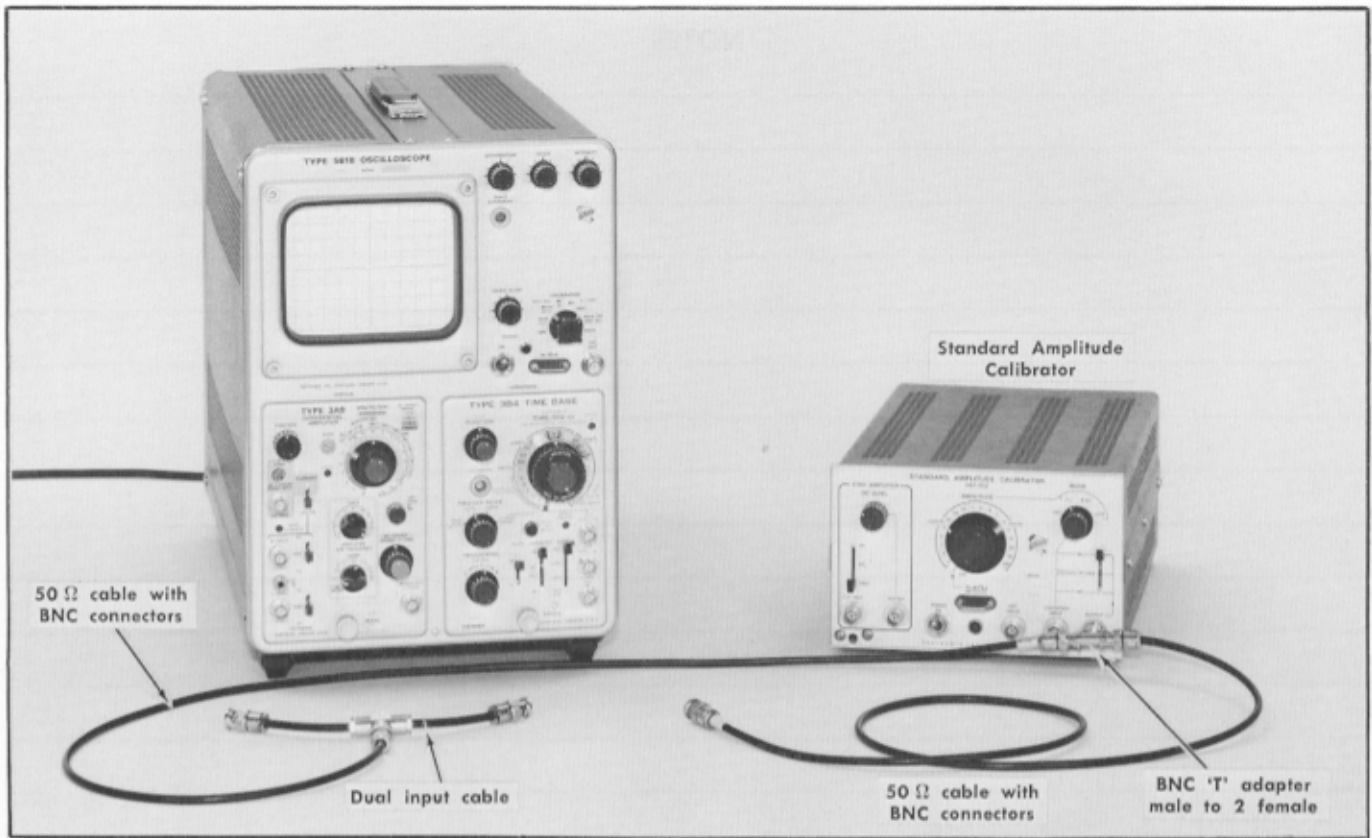

Fig. 5-18. Equipment required for step 17.
17. Check or Adjust Input Attenuator Differential Balance ❶
- a. Test equipment is shown in Fig. 5-18.